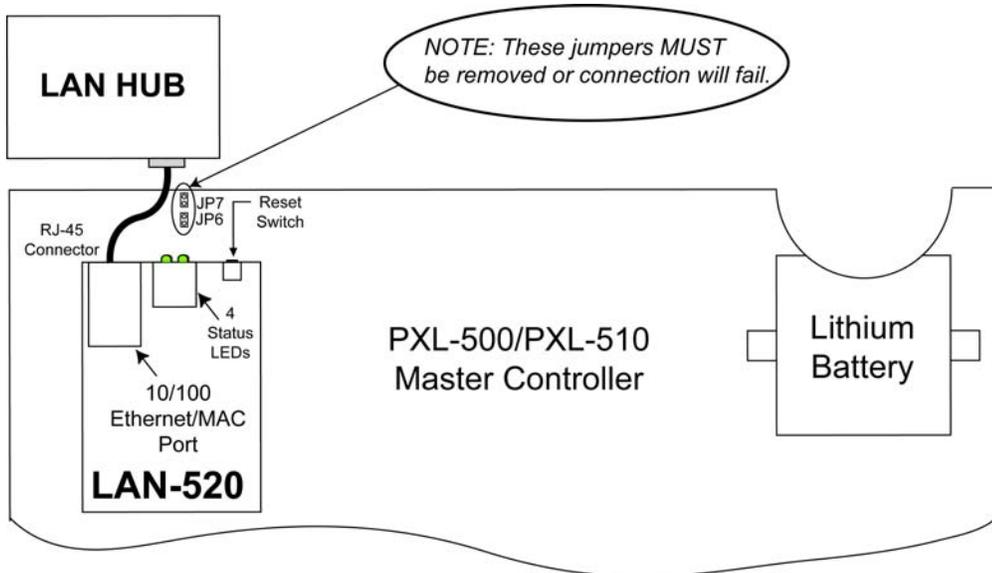

Figure 2: LAN-520 Connection Diagram
2. On the master controller, remove the jumpers from JP6 and JP7 (see Figure 2).
4. Insert the LAN-520's U6 connector pins (located on the underside of the LAN-520) into the PXL-500's TB13 (see Figure 2 for location of connection).